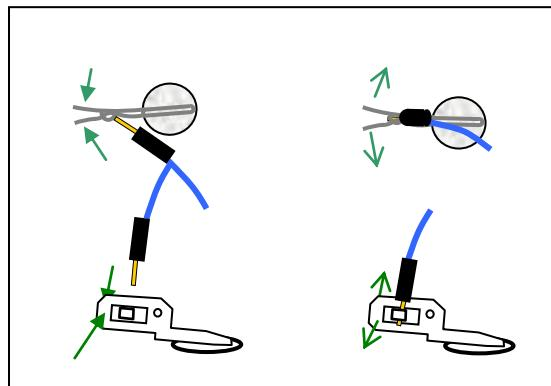

Figure 17
7.2 Push gold motor plug **straight down** through hole (Fig 17)